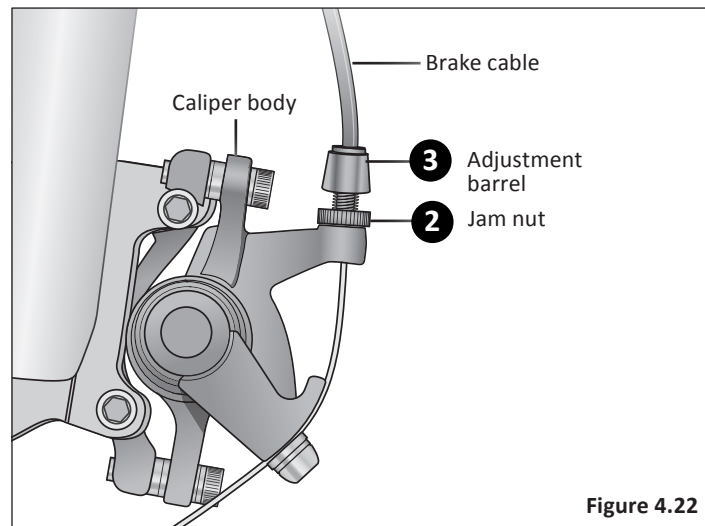

Figure 4.22
- ❷ At the caliper body, or brake lever, slightly loosen the jam nut that is next to the adjustment barrel. **Figure 4.22**
- ❸ Turn the adjustment barrel to adjust the cable tension. Turning clockwise will loosen the brake cable tension, counter-clockwise will tighten the brake cable tension.
- ❹ Re-check that the brake cable tension allows the brake lever about 1/3 of the travel before the brake pads contact the disc rotor. When you have the brake tension you want then tighten the jam nut.